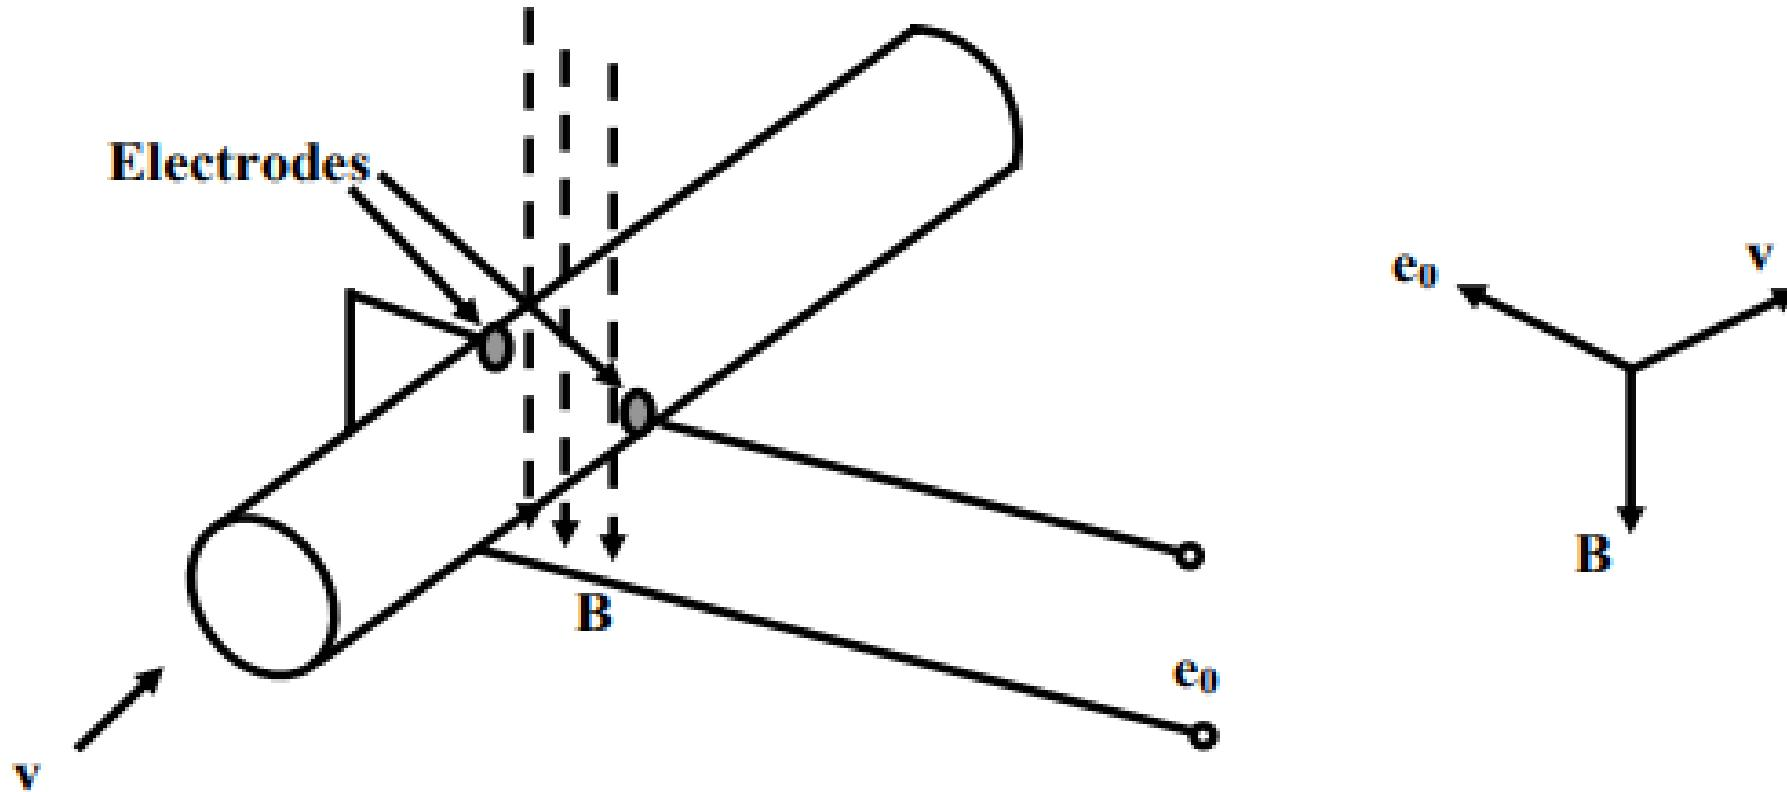

Fig. 10 Electromagnetic Flowmeter
- The basic principle of operation can be understood from fig. 10.